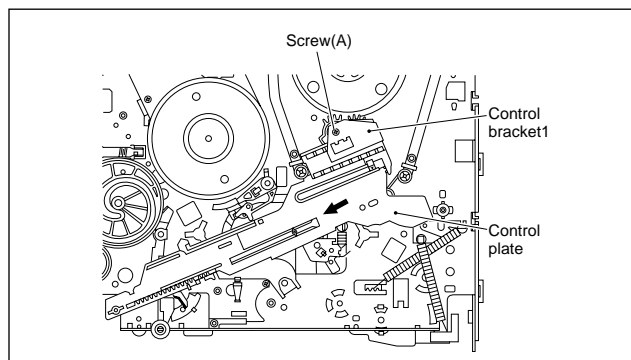

Fig. 2-2-15a
- (1) Remove the screw (A) retaining the control bracket 1 and remove the latter.
- (2) Slide the control plate as indicated by the arrow and remove the control plate. (See Fig.2-2-15a.)